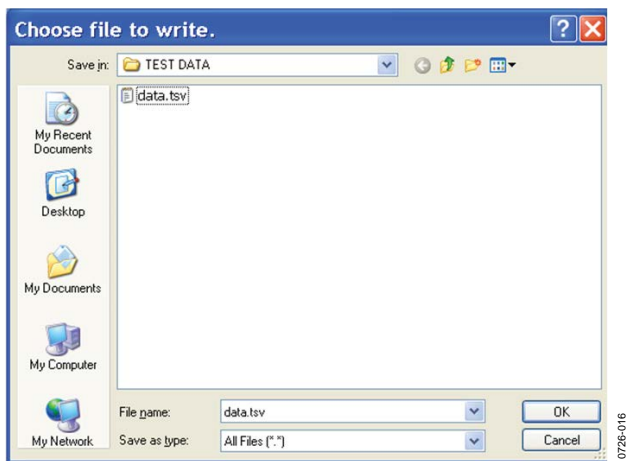

Figure 16. Load File Dialog Box:
- **Load data:** load previously captured data or example files in .tsv (tab separated values) format for analysis (see Figure 16). (The default location for example files is C:\Program Files\Analog Devices\AD7656-1\_57-1\_58-1\examples.)